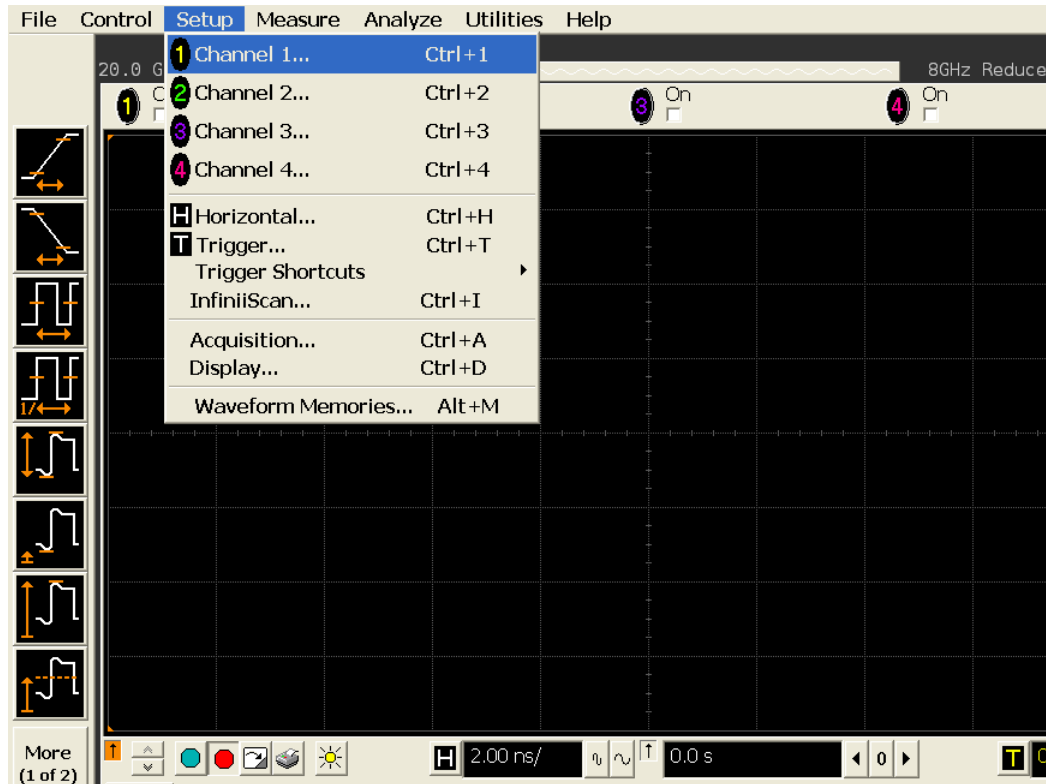

Figure 43 Channel Setup Window.
- 1 On the Infiniium oscilloscope in the Setup menu, select the channel connected to the probe, as shown in Figure 43.